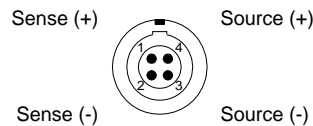

Fig. 127 – Pro II-RTD-8 Rev. E: Pin assignment Lemo connector
- Pro II-RTD-8-L Rev. E: Module inputs on Lemo connectors. Pin assignment see fig. 127.